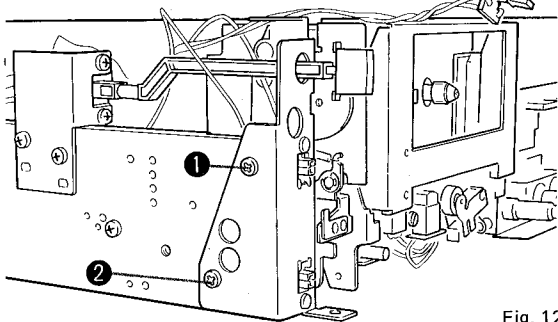
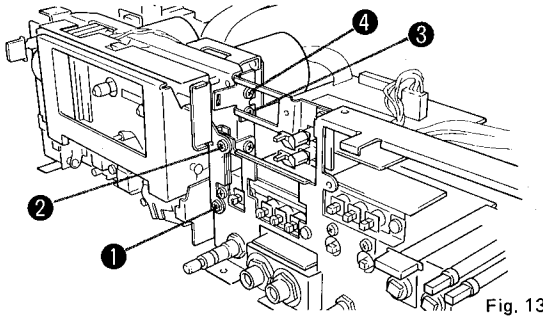

Fig. 12
Fig. 13
4. Remove the screws ① and ② in Fig. 12 and screws ① to ④ in Fig. 13, and then remove the cassette mechanism unit.